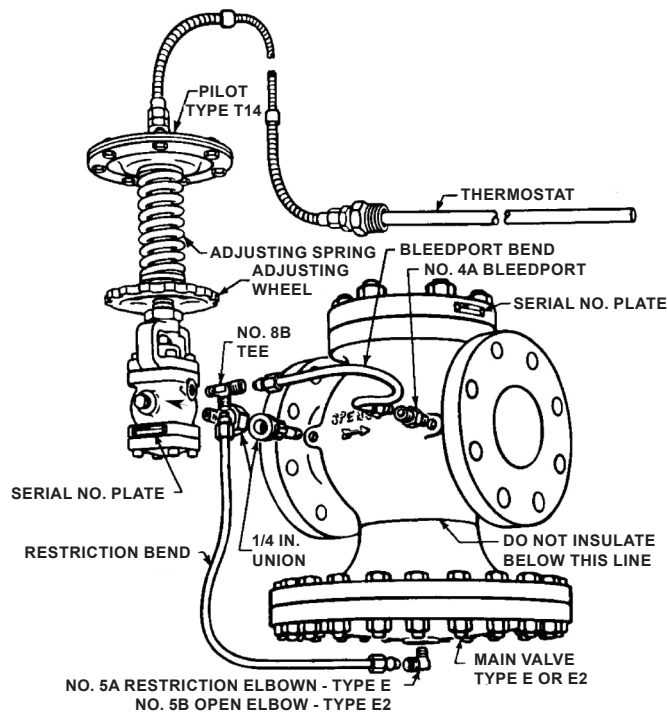
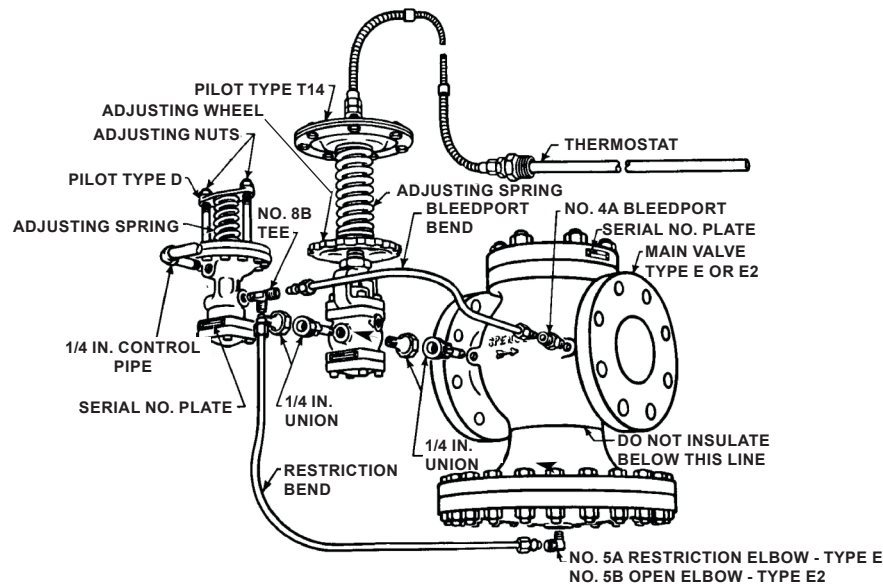

Figure 3. Type T14 Tubing Bends Connection
Figure 4. Type ET14D Tubing Bends Connection
2. Connect the 1/4 in. / 6.35 mm pipe tap at the inlet side of the main valve as shown in Figure 3.
6. Connect tubing bends as illustrated in Figure 3. Valves with condensation chamber are fitted up according to Figure 4.
1. Use 1/4 in. / 6.35 mm pipe for this line which connects the pilot pressure diaphragm chamber (Figure 3) to the desired point of pressure control.